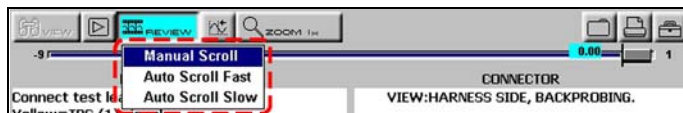

Figure 4-24 Sample scroll options
1. With the **REVIEW** button selected, press **Y/✓** again to display the menu of scroll options. (Figure 4-24)